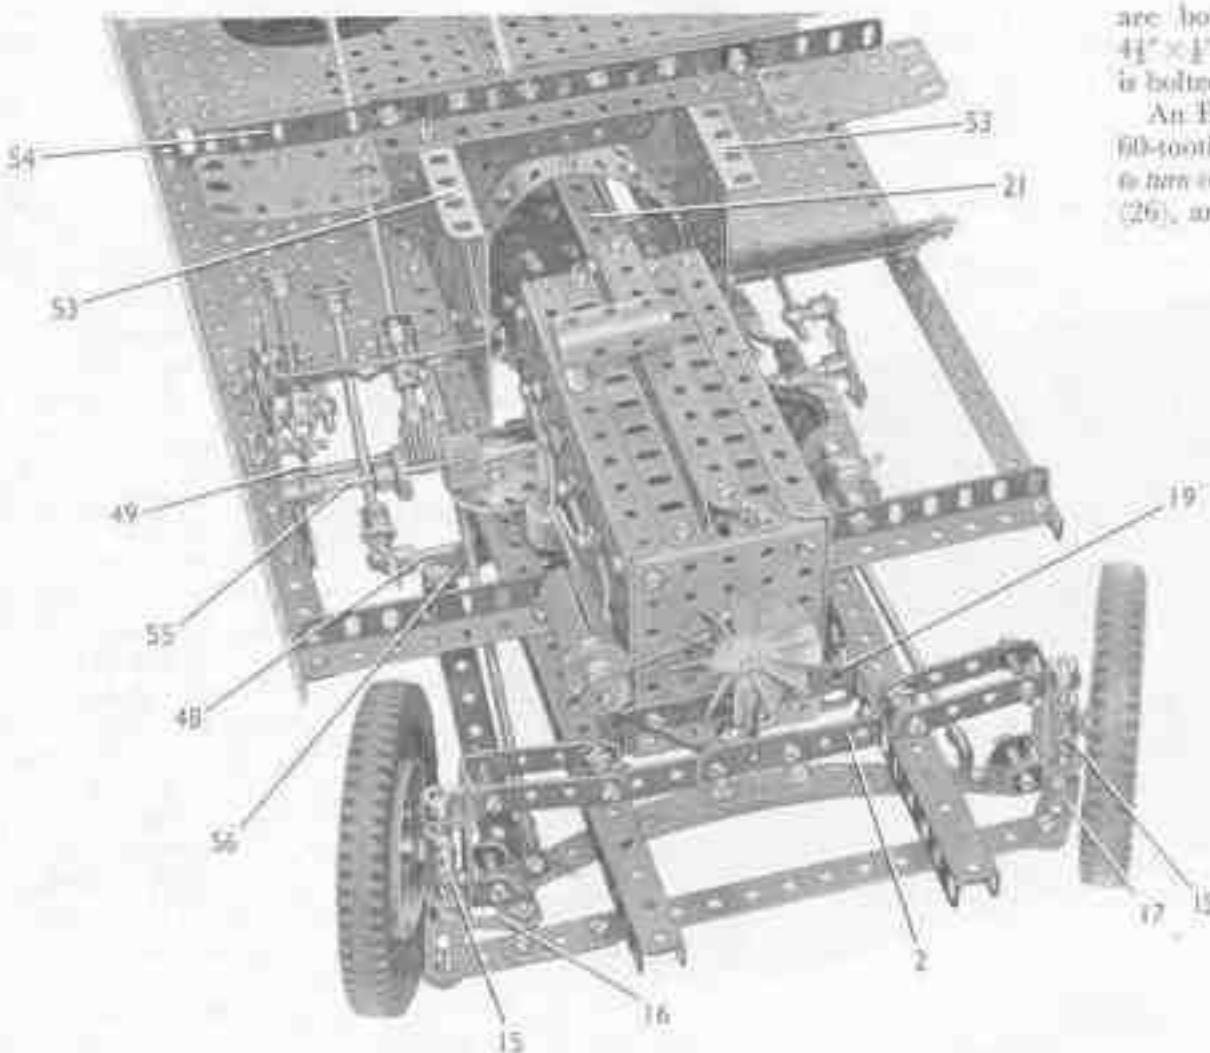
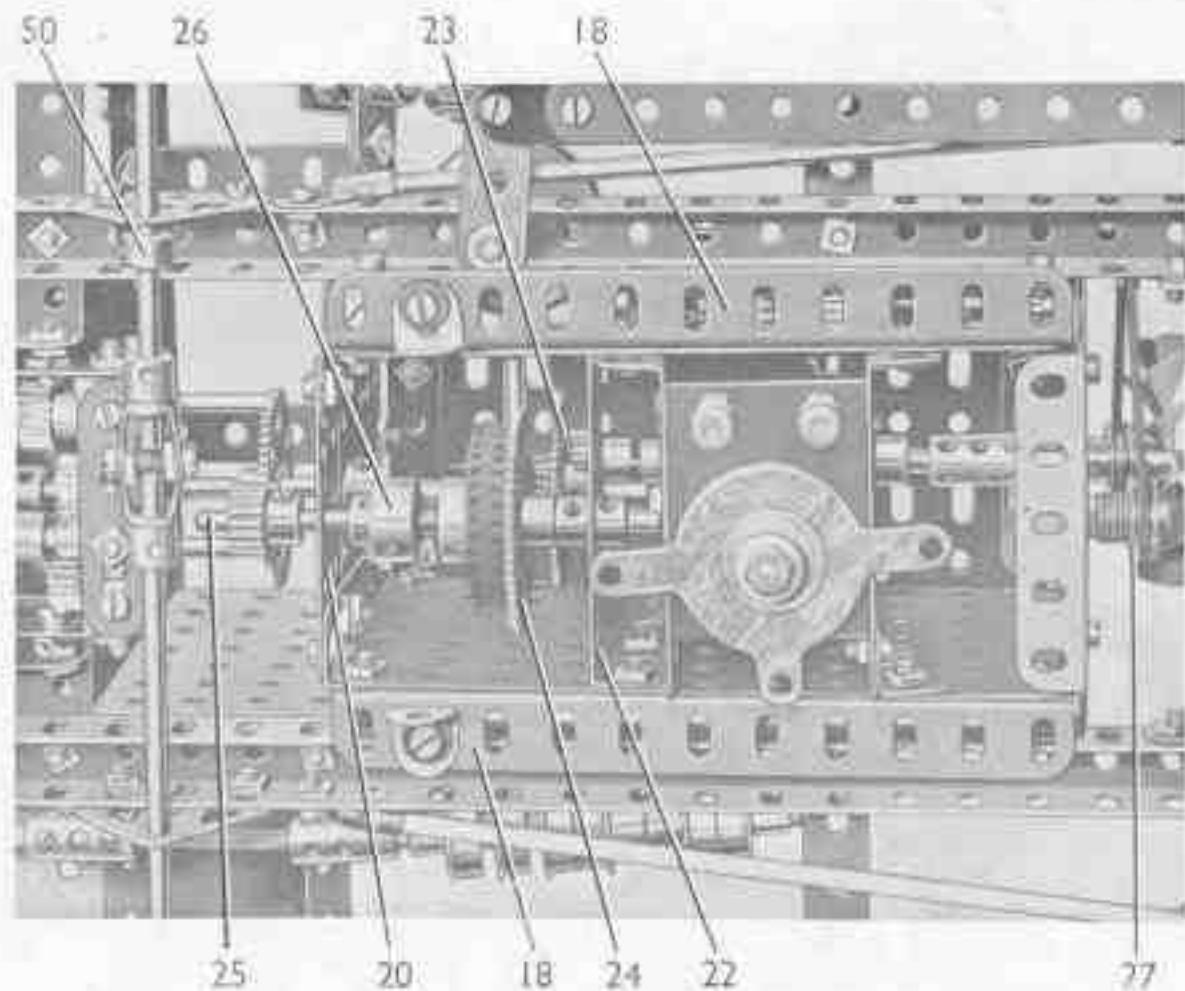

FIG. 4. A front view of the chassis showing the steering mechanism in detail.
FIG. 5. The engine unit seen from below.
Flat Girder is bolted, and to this is fixed a 9 $\frac{1}{2}$ " Angle Girder (1). The chassis members are connected by a 3 $\frac{1}{2}$ "  $\times$  1" Double Angle Strip (2) (Fig. 4), and a 3 $\frac{1}{2}$ " Angle Girder (3) fixed to Angle Brackets. They are joined also by a 7 $\frac{1}{2}$ " Angle Girder (4) braced by 1 $\frac{1}{2}$ " Corner Brackets. The Girder (3) is braced to the channel girders by two 7" Angle Girders.
#### 2 Construction of the Front Axle (Fig. 4)
#### The Engine Unit (Figs. 4, 5 and 6)
Each side of the engine unit (Figs. 4 and 6) is a  $5\frac{1}{2}" \times 3\frac{1}{2}"$  Flat Plate fitted at each end with a  $3\frac{1}{2}"$  Angle Girder, at the top with a  $5\frac{1}{2}"$  Angle Girder, and at its lower edge with a  $5\frac{1}{2}"$  Angle Girder (18) (Fig. 5). The sides are connected at the front by a  $3\frac{1}{2}" \times 2\frac{1}{2}"$  Flanged Plate, to which a  $3\frac{1}{2}" \times \frac{1}{2}"$  Double Angle Strip (19) is bolted, and at the rear are joined by a  $2\frac{1}{2}" \times 2\frac{1}{2}"$  Flat Plate, a  $3\frac{1}{2}" \times \frac{1}{2}"$  Double Angle Strip and a  $2\frac{1}{2}"$  Strip (20). At the top of the unit two  $5\frac{1}{2}"$  Angle Girders
The dynamo is a Steepe Pierce fitted at one end with a Chimney Adapter and at the other with a  $\frac{1}{2}"$  Flanged Wheel. A  $1"$  loose Pulley is free to turn on a  $\frac{1}{2}"$  Bolt gripped in the Flanged Wheel, and the Sleeve Piece is spaced from the engine unit by a nut on the bolt that holds it in place. A  $1"$  loose Pulley (27) (Fig. 5), is free to turn on a Pivot Bolt. The three  $1"$  Pulleys are connected by a Driving Band.
A  $1''$  diameter  $\frac{1}{2}''$  face Pinion on the lower end of the steering column engages a  $\frac{1}{2}''$  Contra on a  $5''$  Rod (55) (Fig. 4). This Rod is supported in one side of the engine unit and in a Trunnion fixed to one of the Girders (9). A  $1''$  diameter  $\frac{1}{2}''$  face Pinion on Rod (55) meshes with a  $1\frac{1}{2}''$  Contra on a vertical  $1\frac{1}{2}''$  Rod. The  $1\frac{1}{2}''$  Rod is passed through one of the chassis crossbeams and is held in place by a Collar. A Crank (56) is fixed on the lower end of the  $1\frac{1}{2}''$  Rod, and in it is hub-surfaced a Fishplate. The Fishplate is bolted to a  $5\frac{1}{2}''$  Strip bolt-surfaced to the Bell Crank (16).